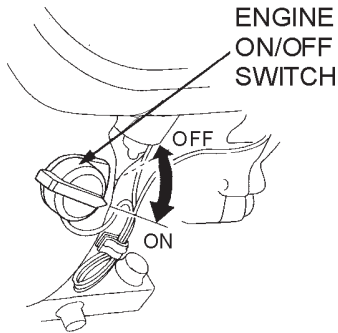

Figure 13. Engine ON/Off Switch (OFF Position)
2. Place the engine **ON/OFF** switch in the **OFF** position (Figure 13).
2. Place the **Engine ON/OFF switch** (Figure 13) in the **OFF** position.